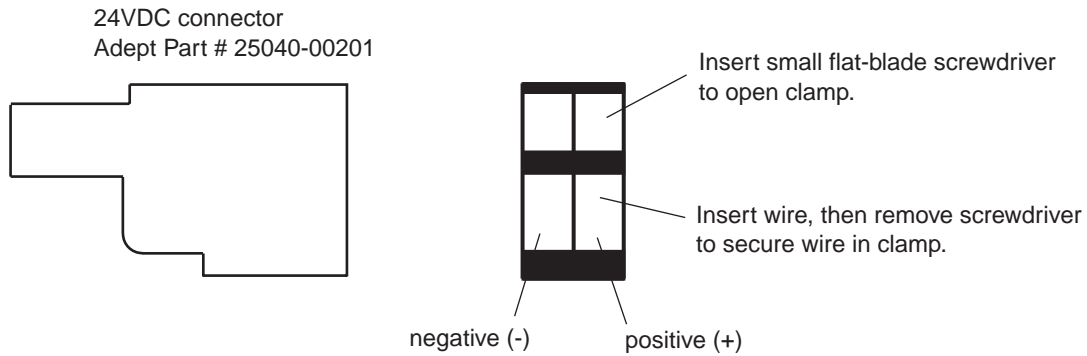

Figure 2-8. 24V Connectors
1. Locate two 24VDC connectors that are shipped with the controller. See Figure 2-8 on page 33.